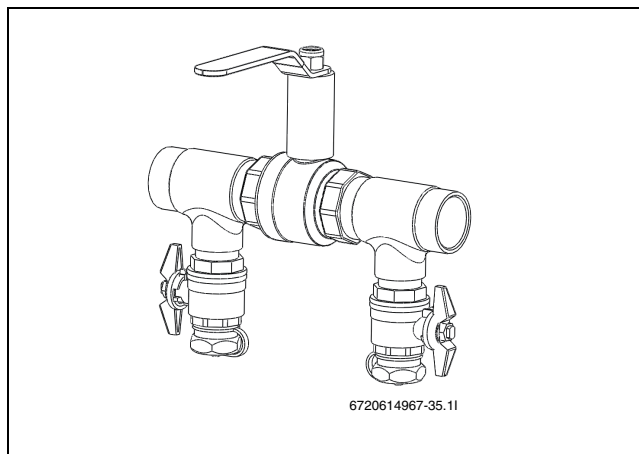

Fig. 17 Filling unit in filling position
- ▶ Turn the valves on the filling unit so that they are in filling position (→ Figure 17).